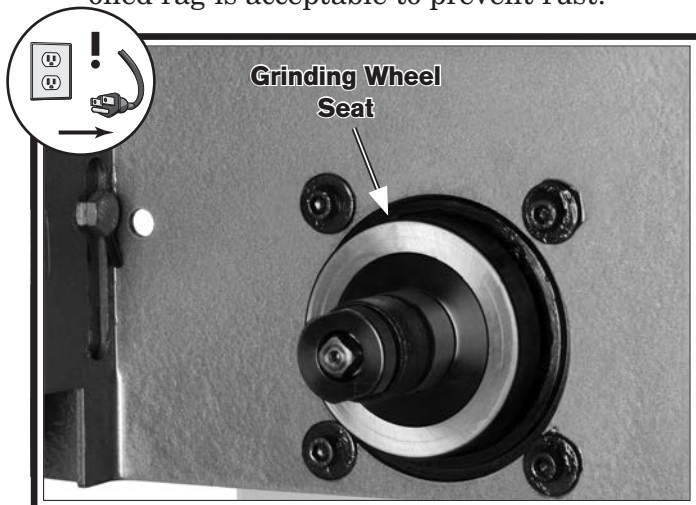

Figure 26. Wheel mounting hub.
7. Wipe the grinding wheel seat shown in **Figure 26**, so it is perfectly clean, and no paper is left behind.